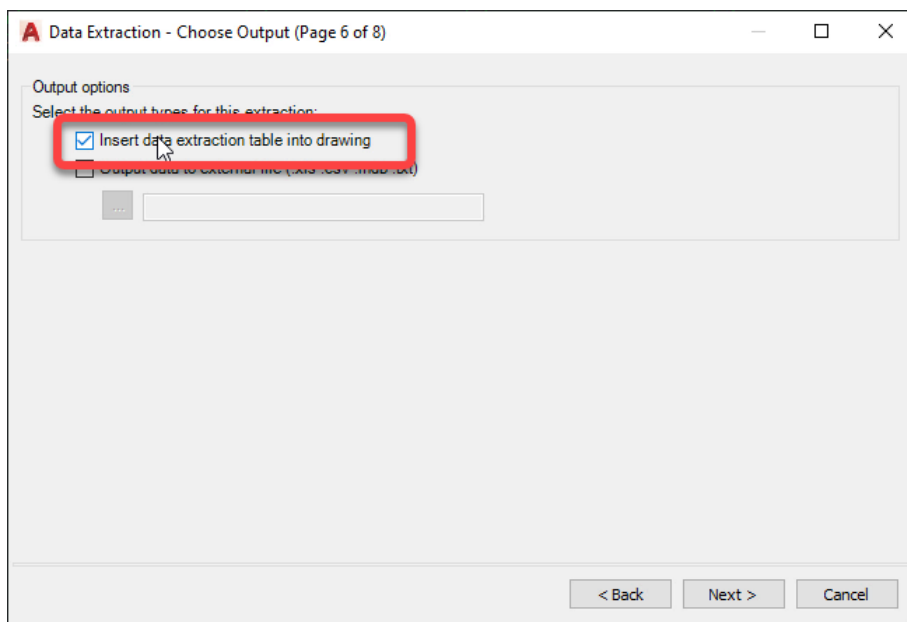

Figure 49: Specifying the current drawing as the output location for the Data Extraction table.
- For a dynamic table, choose Insert Data Extraction Table Into Drawing from the Data Extraction – Choose Output dialog box (see Figure 49).